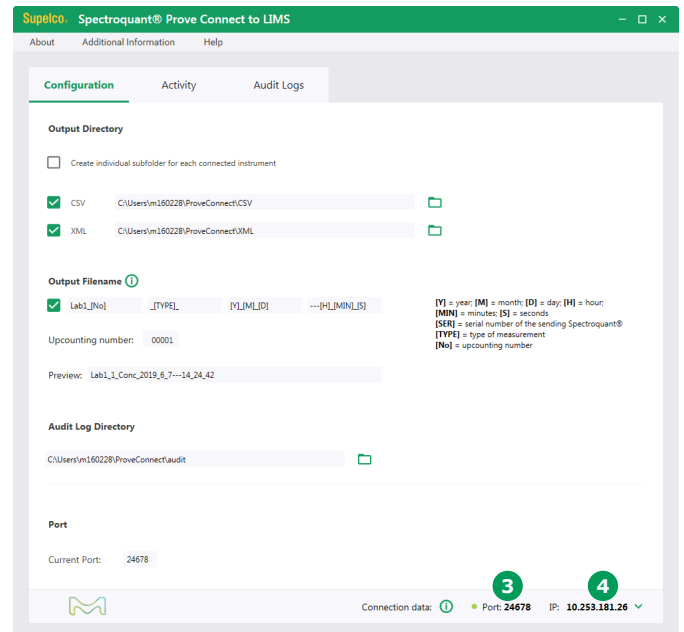
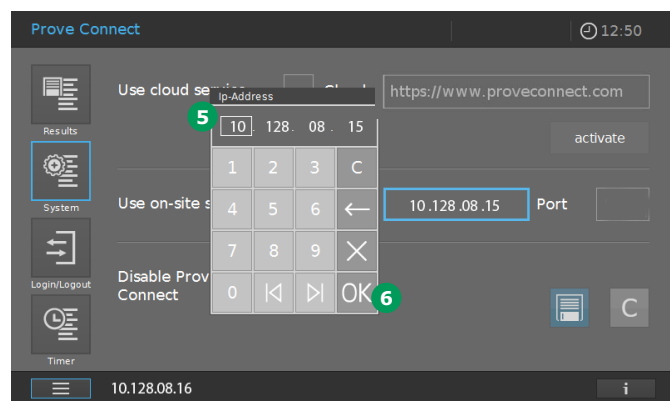

Figure 18 - Screenshot of Prove Connect for setup of network connection
Figure 20 - Screen of Spectroquant® Prove / Prove plus (Figure 17) with entered IP address of the PC on which Prove Connect runs
3. Enter the Port **3** and IP address **4** shown in the Prove Connect to LIMS status bar (Figure 18) into the instrument (Figure 20).
4. On the Spectroquant® Prove / Prove plus, click in the field "IP address" (text box with the blue border) and the entry field appears 5 (Figure 20).
5. Enter the IP address 4 (Figure 18) into the instrument.
6. Confirm the entered IP address with "OK" 6 (Figure 20).
8. Enter the Port 3 (Figure 18) shown in Prove Connect into the instrument.